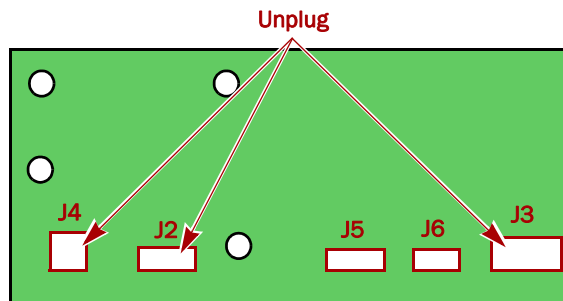

Figure 3-2: Unplug the J2, J3, and J4 Drive PWA Connectors
- Unplug the **J2, J3, and J4** connectors from the Drive PWA (Figure 3-2).